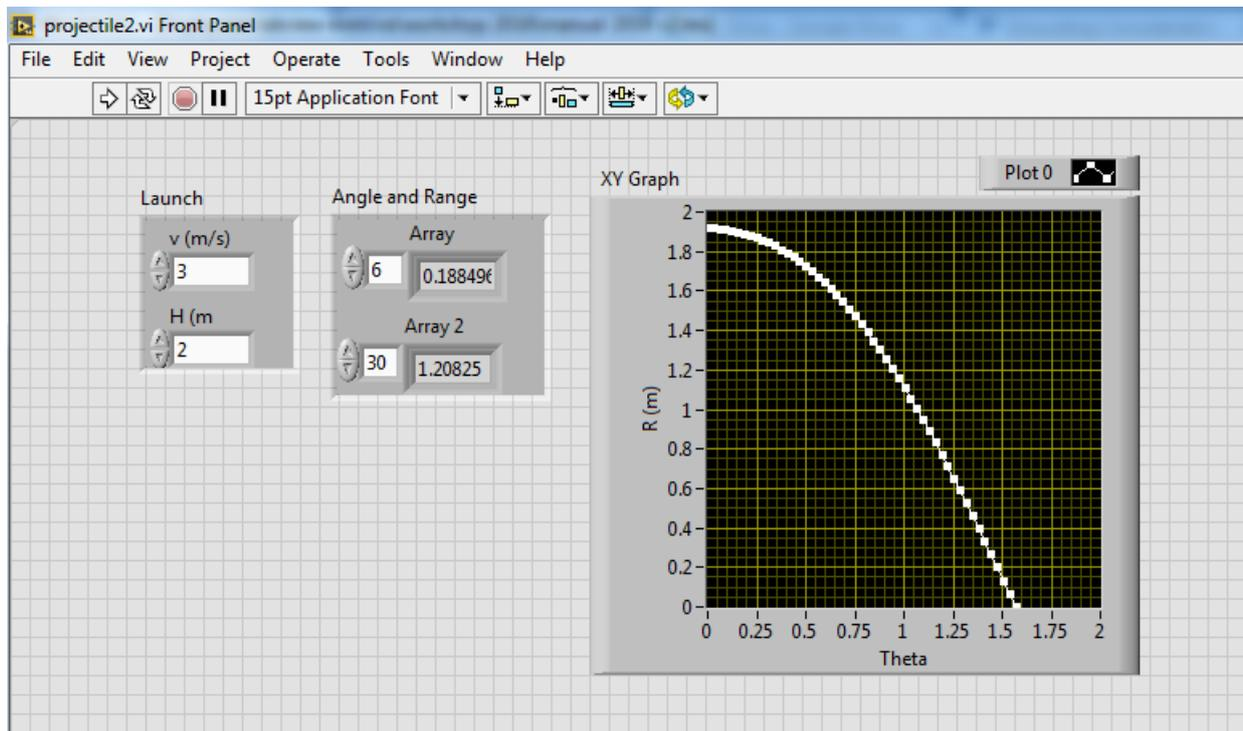

Figure 3: Desired front panel for projectile calculation.
- I like you to make a graphical program that allows you to plot the range of a projectile  $R$  as a function of the launch angle  $\theta$ . The user is able to input a fixed value of the initial speed  $v$  and the height from which the object launches  $h$ . You will plot an  $XY$  graph. The front panel will look like Fig. 3. The relationship between the range and other parameters is given by,